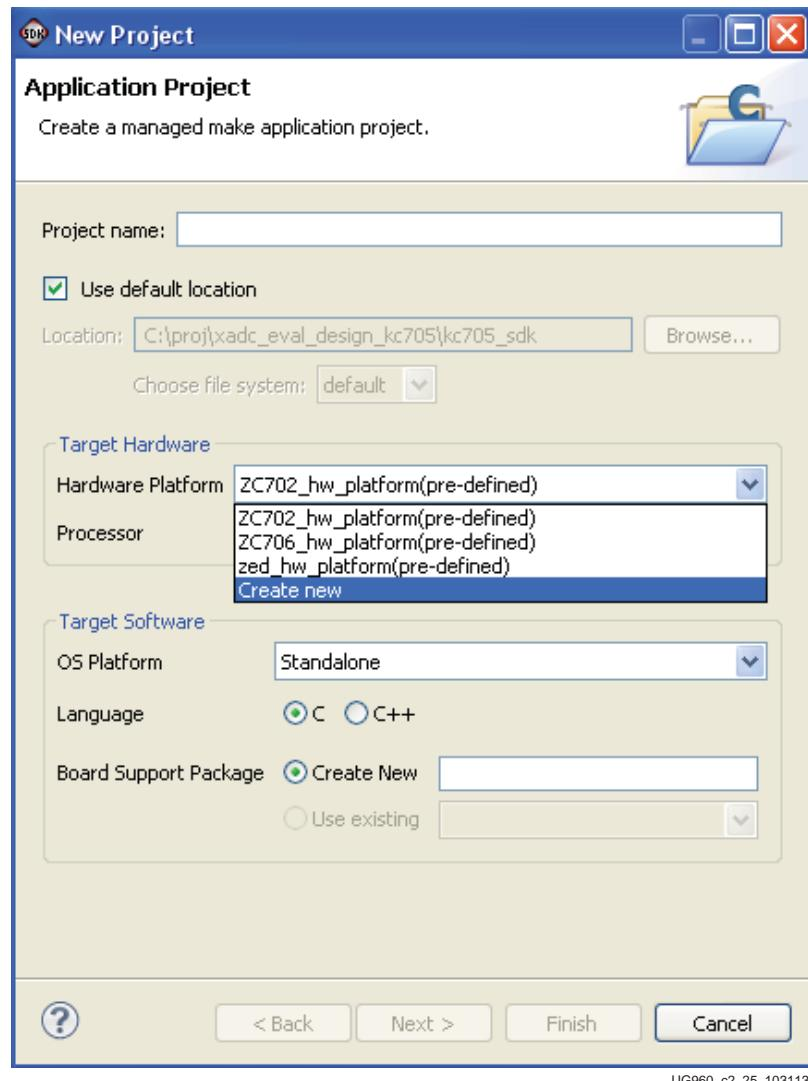

Figure 2-25: Selecting Create New Hardware Platform
5. Select **Create new** under Hardware Platform as shown in Figure 2-25.